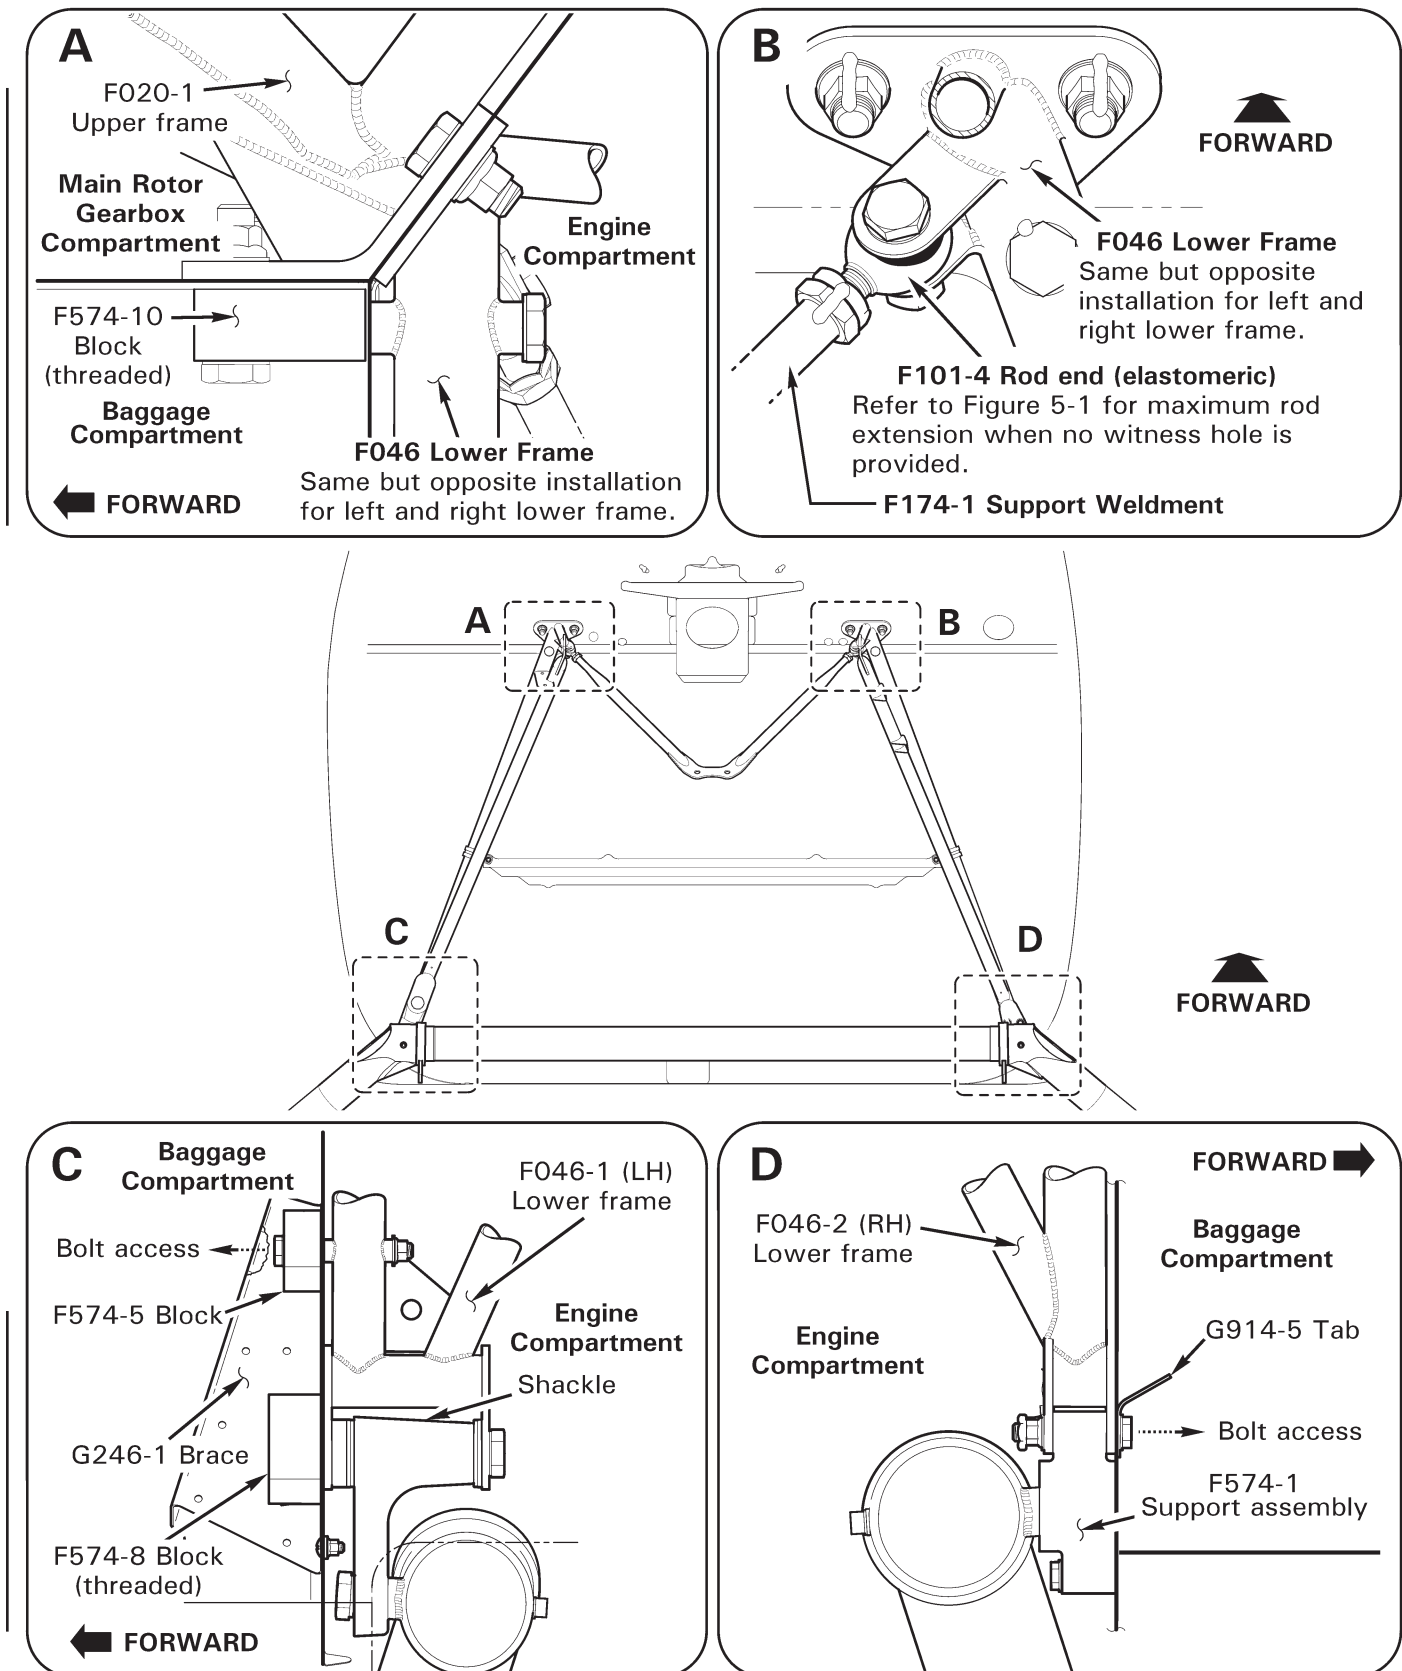

FIGURE 53-2 LOWER FRAMES
2. Refer to Figure 53-2.
- a. F046-1 (LH) only: Remove hardware securing power turbine governor control cable clamps, F723-3 line assembly clamp, and firewall clamp to F046-1 lower frame.
- b. F046-2 (RH) only: Remove hardware securing battery cable harness clamp, external power block, and firewall clamp to F046-2 lower frame.
- a. F046-1 (LH) only: Remove hardware securing frame to F574-5 block (access bolt thru G246-1 brace, inside baggage compartment). Remove hardware securing shackle and frame to F574-8 block (threaded).
- b. F046-2 (RH) only: Remove hardware securing frame to F574-1 support assembly (access bolts from inside baggage compartment).
1. Refer to Figure 53-2.